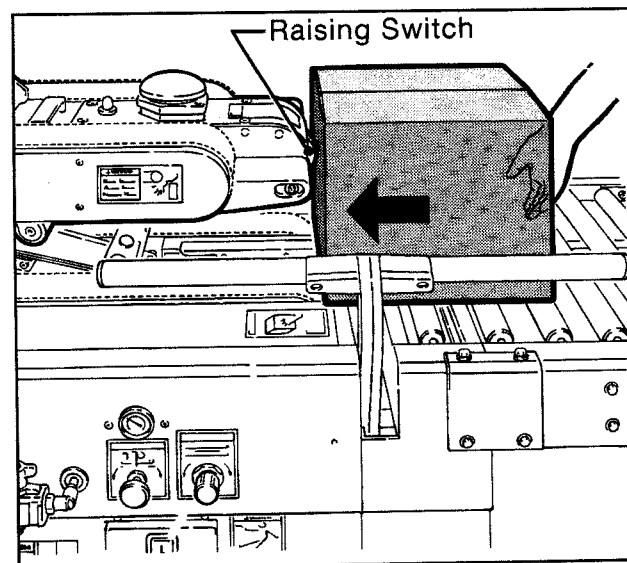

Figure 2-19 – Drive Assembly Raising Switch
2. Once the box is centered by the guides, the operator pushes the box against the raising switch on the upper drive assembly, as shown in Figure 2-19, causing the upper taping head to be raised by two air cylinders. The upper taping head will continue to rise above the box height so the operator can insert the box underneath the upper drive belts.